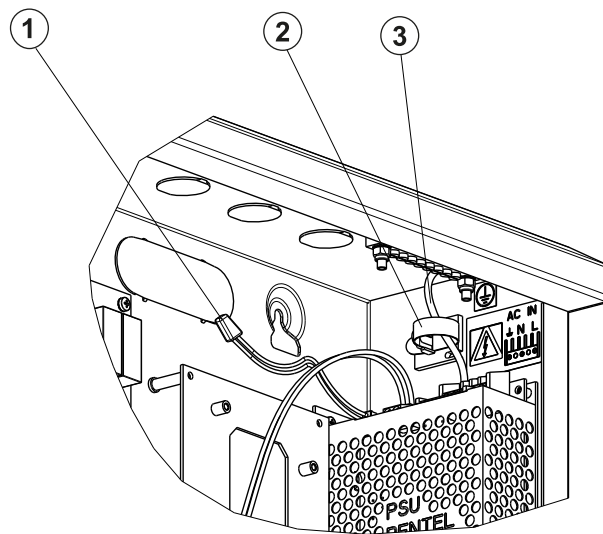

Fig. 9: PSU Mains connections on FC602S/FC604S panel, FC602S/FC604S Scandinavian panel, and FC32AR/FC32AR AC Scandinavian repeaters
- 5 Identify the temperature compensation thermistor lead. Connect the thermistor to terminals labelled XT10 **TEMP** on the FC-FI/FC-FI-1 board. Tape this thermistor and the thermistor from the mains PSU (see Fig. 9) at the end of the lead, at a convenient location on the top of a battery.